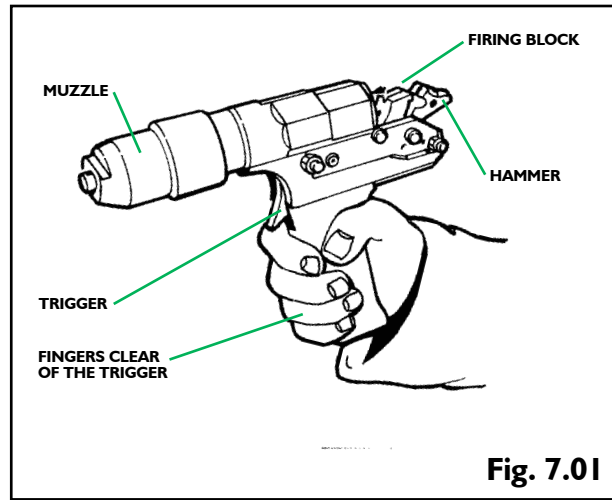

Fig. 7.01
- 5.1** Pull back the hammer and firing block as shown in Fig. 7.01